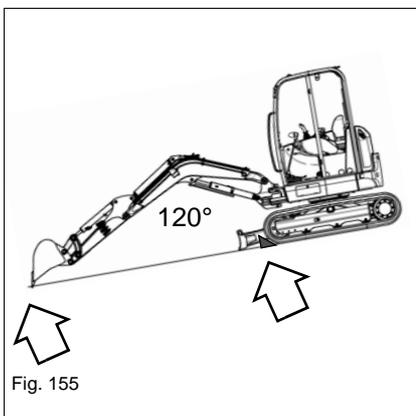

Fig. 155
- Secure the vehicle with wheel chocks (see Fig. 155).